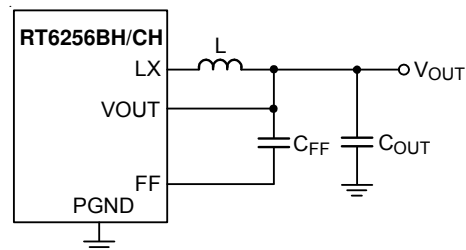
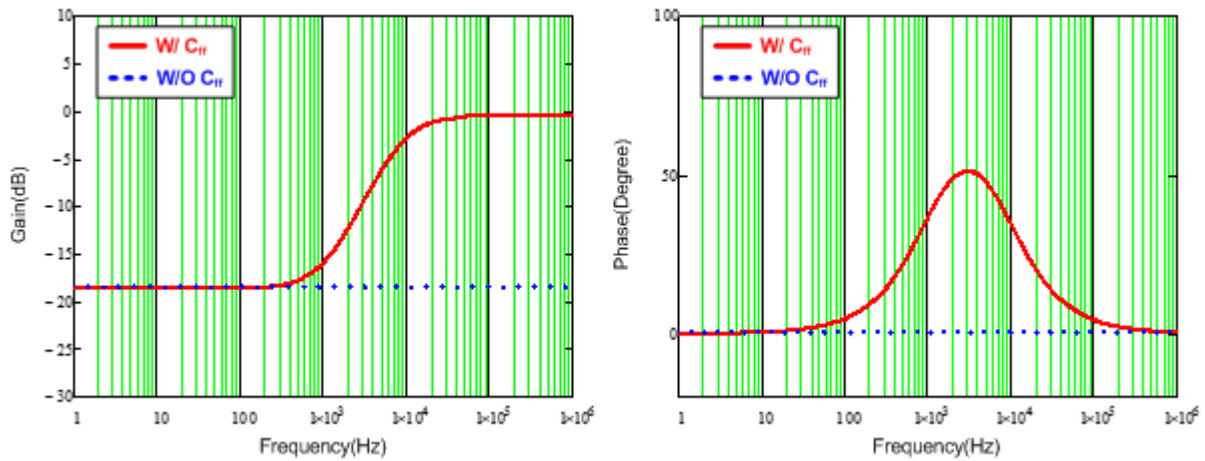

Figure 4. Feedback Loop with Feedforward Capacitor
Figure 5. Bode Plot with Different Feedback Loop Conditions
For saving time to design compensator and reducing the layout area through external components, the components of compensator are integrated in IC. However, this integrated compensator might not suit to every load transient spec. Hence, for the RT6256BH/CH to be more adaptable, the feedforward capacitor C_{FF} is used in the feedback loop to improve transient response, as shown in Figure 4. Figure 5 shows the comparison result of bode plot with different feedback loop conditions. Referring to Figure 5, through connecting a C_{FF} in feedback network, the gain and phase are raised in mid-frequency that not only can extend the bandwidth, but boost the phase margin as well. Moreover, there is also a high frequency pole to eliminate high frequency noise. Consequently, those features of feedforward feedback network allow the RT6256BH/CH have faster response to handle different load transient.
Observing Figure 5, the maximum phase boost occurs between zero and pole frequencies that is defined as maximum phase boost frequency, as expressed in equation (4). Hence, in order to achieve the maximum phase boost by adding C_{FF} in the RT6256BH/CH, the system's original bandwidth has to be located at maximum phase boost frequency.